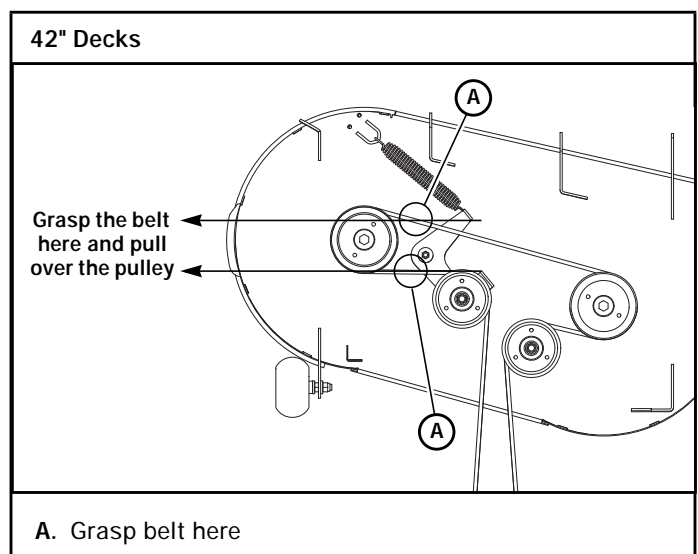
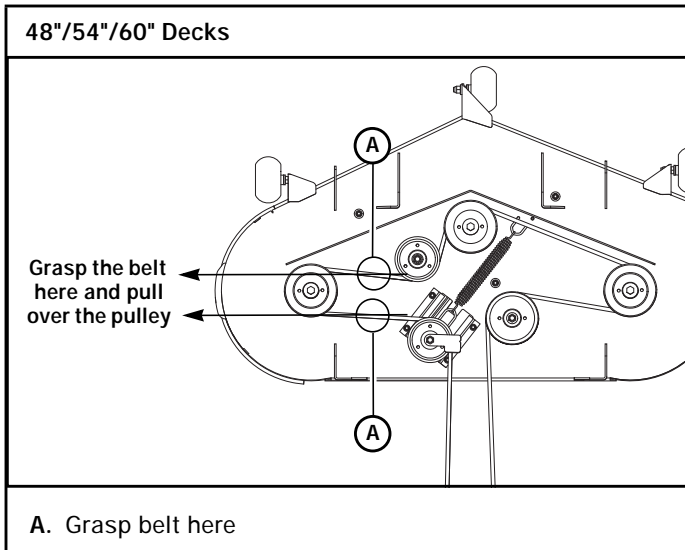

Figure 4-12
Figure 4-13
4. Grasp the belt at the two locations shown and pull the belt over the left spindle pulley. Figure 4-12 & Figure 4-13
13. Re-tension the deck drive belt by pulling on the deck belt at the locations shown. Slide the deck belt over the left spindle pulley. Figure 4-12 & Figure 4-13